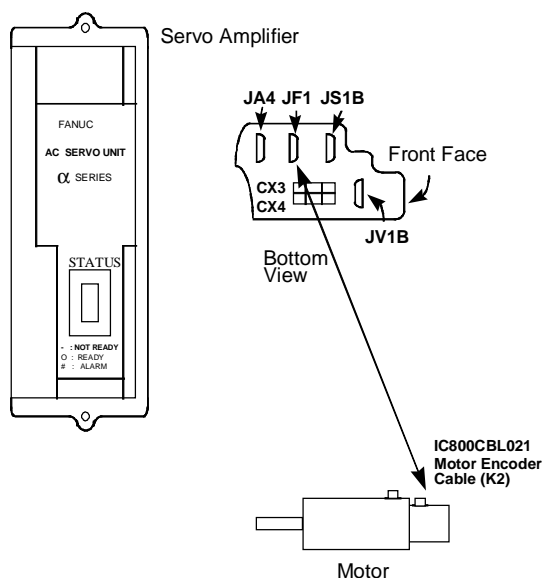

Figure 2-6. Connecting the  $\alpha$  Series Motor Encoder
- B. Plug the opposite end into the connection labeled **JF1** on the bottom of the  $\alpha$  Series servo amplifier (see Figure 2-6).
An AC line filter will reduce the effect of harmonic noise to the power supply; its use is recommended. Two or more amplifiers may be connected to one AC line filter if its power capacity has not been exceeded. Figure 2-6 shows how to connect the amplifier to the line filter.